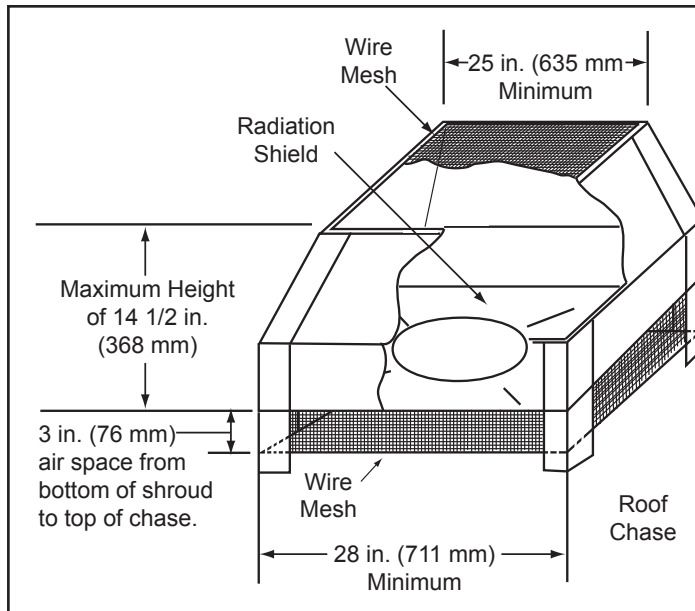

Figure 17 Cutaway View of Shroud with Radiation Shield & Wire Mesh
- If using a TR Series cap and you prefer that the cap doesn't stick out of the top of the shroud (as it does in Figure 6), use the following requirements (see Figure 17):